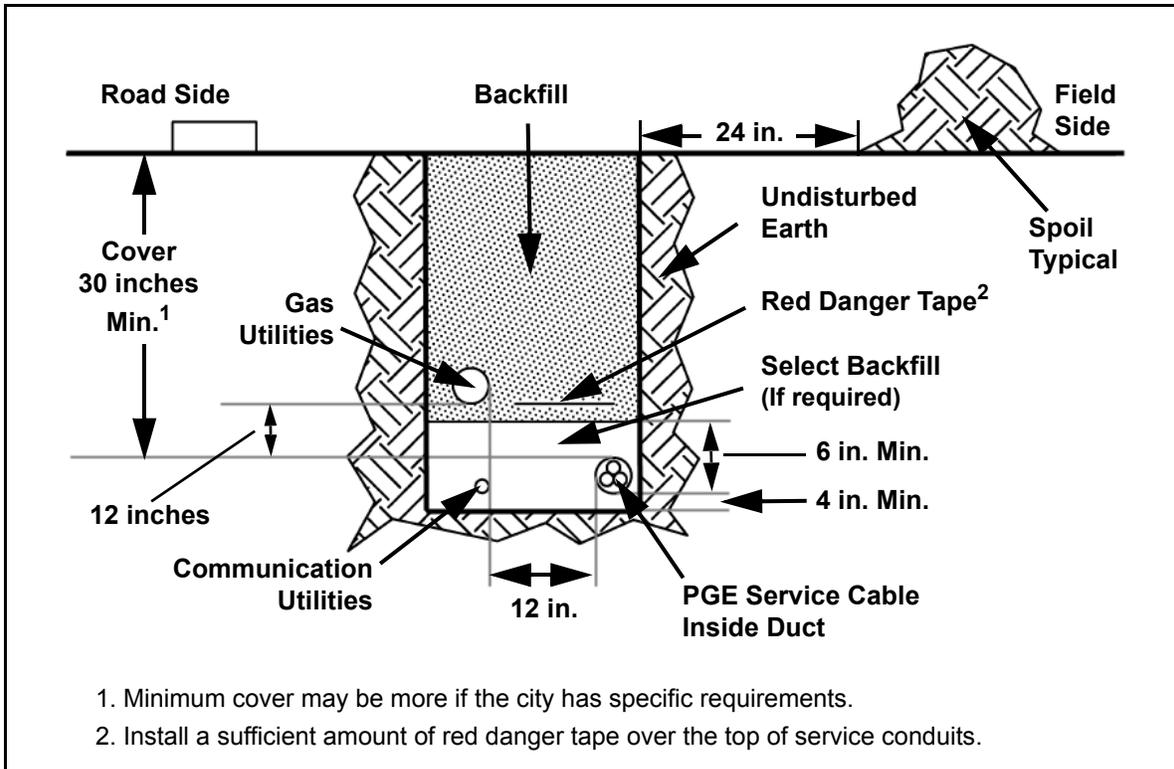

Figure 6-1: Service Cable Trench for Joint Use With Gas
- Placing spoil (excavated material) a minimum of 24 inches back from the edge of the trench as shown in **Figure 6-1** and **Figure 6-2**. If this is not possible, shoring may be required to comply with OSHA standards. Spoil may be placed in the street upon approval from the local jurisdiction.